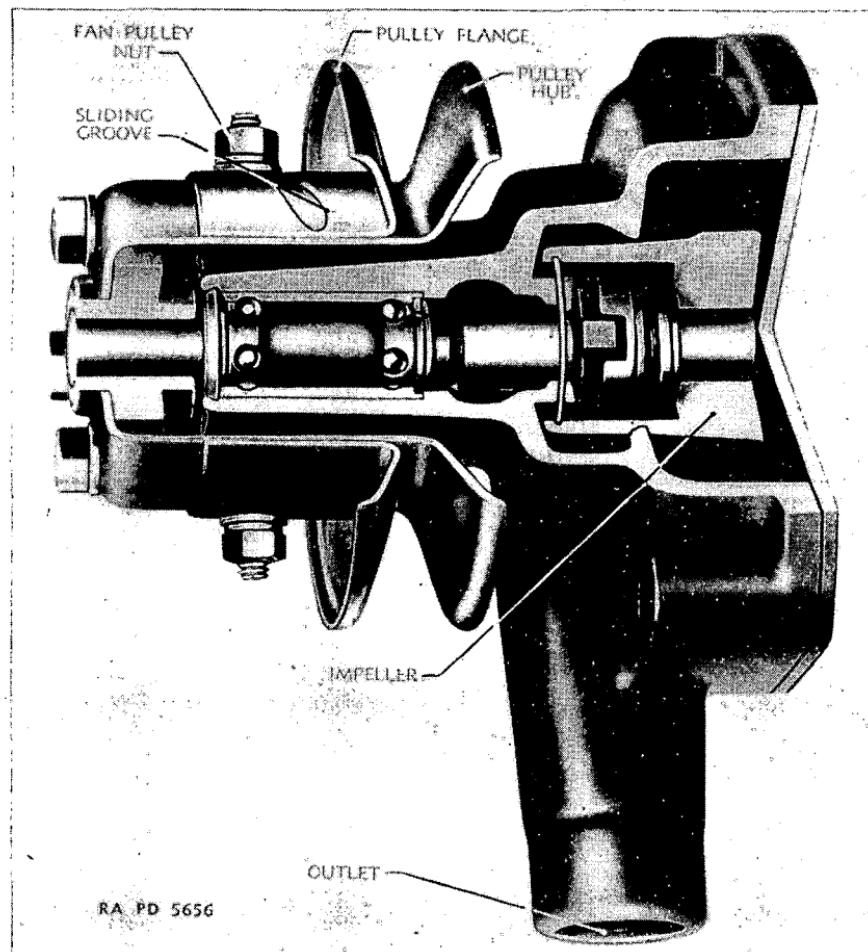

FIGURE 18.—Water pump showing fan belt tension adjustment on pump pulley—
- (1) Loosen the two nuts on the fan pulley (fig. 18).
- (2) Grasp the pulley flange from the rear and turn it counterclockwise; when desired tension is obtained, tighten the nuts on the pulley fan.
(3) Do not tighten the fan belt more than the amount necessary to prevent slippage.